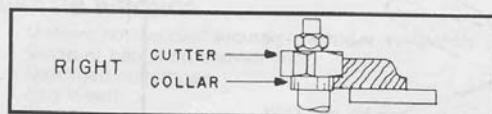
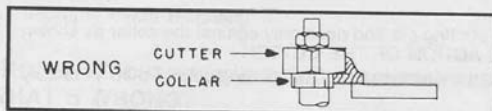

Fig. 28
Fig. 29
4. The work **MUST** be fairly heavy in proportion to the cut being made as shown in Fig. 28. Under **NO** circumstances should short work of light body be shaped against the collars as shown in Fig. 29.